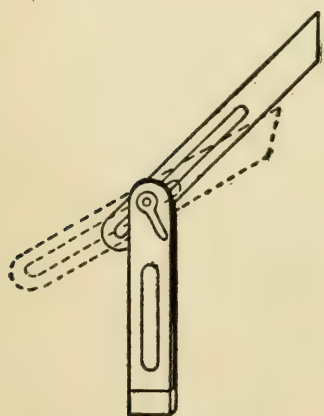

FIG. 34. — Bevel.
**A Bevel** (Fig. 34) is a handy tool for laying out angles other than 45 degrees, for laying out bevels, and for reproducing angles upon several pieces of work. It is like a try-square, only